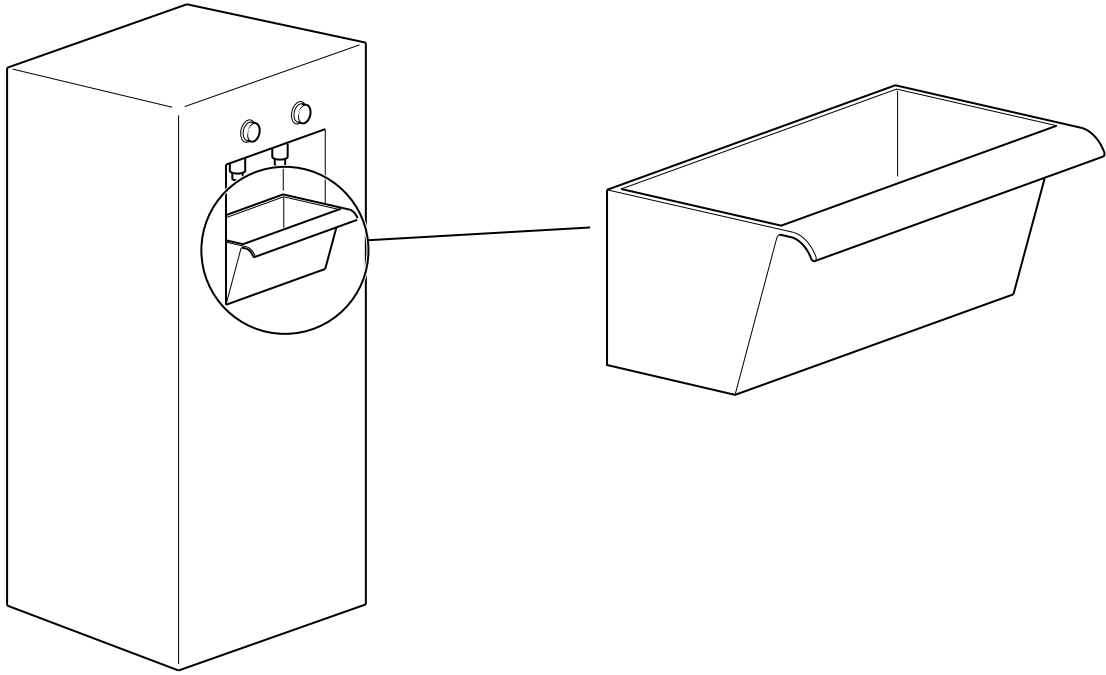

Fig. 8
Fig. 8 shows a tray to catch spills from a drinks dispenser.
(a) Give **four** justified design requirements for the tray shown in Fig. 8.
(b) Describe **two** examples where anthropometric data would have been used in the design of the tray shown in Fig. 8.
- (ii) Describe, in detail, how the tray shown in Fig. 8 would be manufactured as a batch of 250.